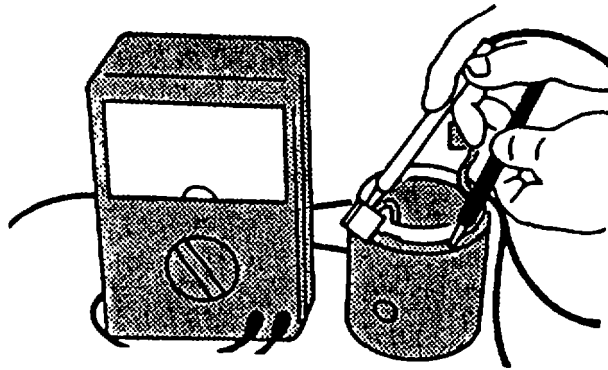

FIGURE 3-37. Checking Field Coils
- e. Using a multimeter, touch one probe to field winding end of brush and other one to bare surface of yoke body, refer to FIGURE 3-37. There should be no continuity. If there is continuity, field windings are grounded. Replace the yoke assembly.